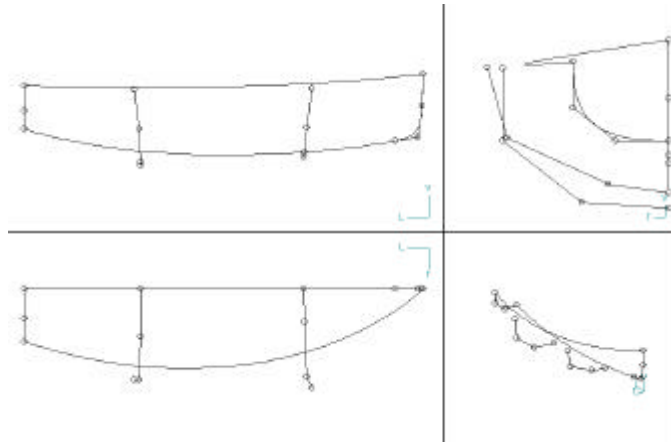

Figure 4-3: The Hull Surface
11. Also in **Front** view, re-shape columns 1 and 2 to form the shape in the mid-body. (See figure 4-3.)